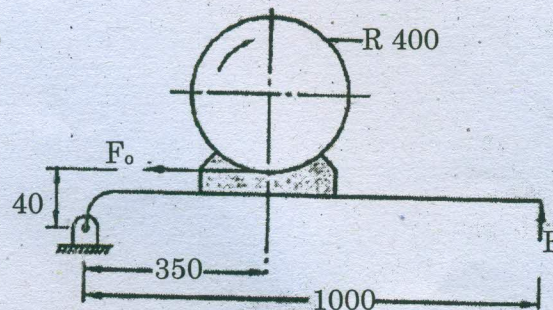

Fig. 15(b)
- (b) A 400 mm radius brake drum contacts a single shoe as shown in fig. 15(b) and sustains 200 N-m torque at 500 rpm. For a coefficient of friction 0.25, determine (i) Normal force on the shoe (ii) Required force  $F$  to apply the brake for clockwise rotation (iii) Required force  $F$  to apply the brake for counter clockwise rotation (iv) The dimension  $c$  required to make the brake self-locking, assuming other dimensions remain same (v) Heat generated.